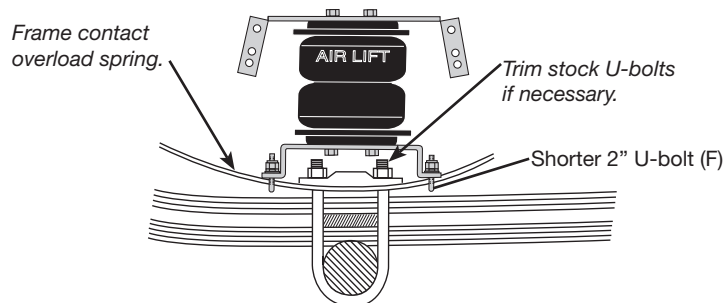

Fig. 9
2. If the spacer is used, place the spacers legs down on the leaf spring and attach the lower bracket securely using the provided U-bolts, flat washers, and lock nuts. Torque nuts to 16 lb.-ft. (22Nm) (Fig. 9).
Use shorter 2" U-bolts (F) when attaching to frame contact overload springs (Fig. 9).